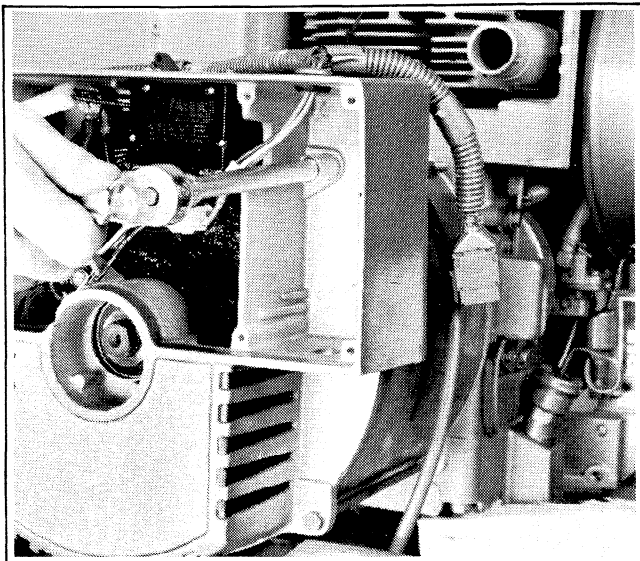
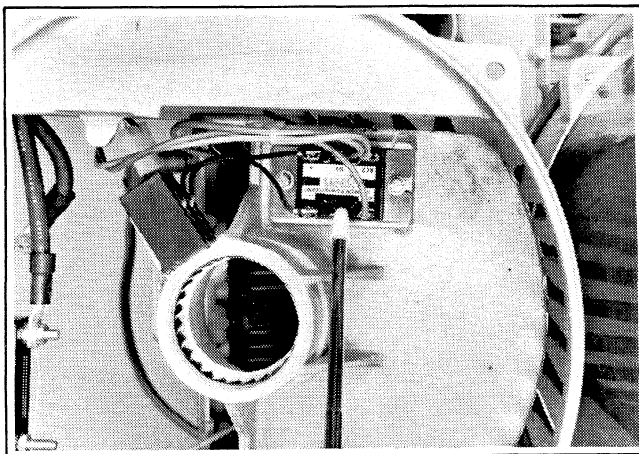

Figure 6-13. Over Bolt Removal (Two Shown)
Figure 6-14. Exciter Voltage Regulator
13. Remove the four long over bolts (Figure 6-13 and 6-14) and remove the end bracket to reveal the exciter voltage regulator (Figure 6-14). Disconnect the stator leads from the regulator.
Voltage regulators will appear as shown in Figure 6-14 or 6-15. Terminal connections and testing will be the same for both.